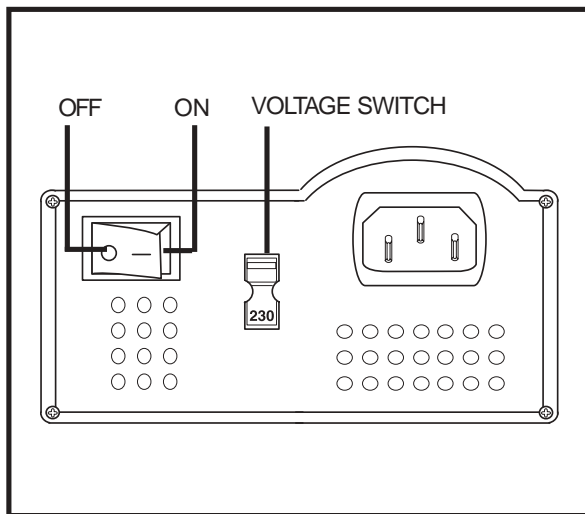

Figure 12. Charger On/Off and Voltage Switches
The off-board charger supplied with your scooter is equipped with a 115/230 voltage switch. Confirm that this switch is in the proper position for your locality. If you are not sure what the voltage is in your country, contact your local electricity provider before inserting the charger power lead plug into your electrical outlet. If the setting is incorrect, the charger will not function properly. Slide the voltage switch to the appropriate position. See figure 12.
7. Turn the charger on. See figure 12. We recommend that you charge the batteries for 8 to 14 hours.